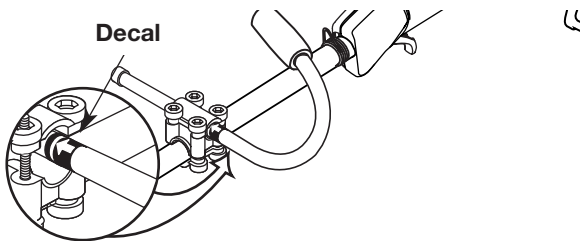

Fig. 2
5. Slide the J-handle in or out until the arrow/white line on the decal touches the clamp assembly (Fig. 2). You must first loosen the screws if the handle is pre-installed.